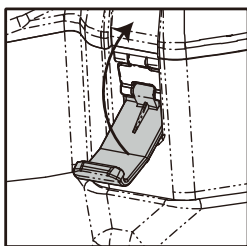

Fig.5
**4.4.3.6** Press down the upper cover and buckle the fastener securely, as shown in Figure 5.